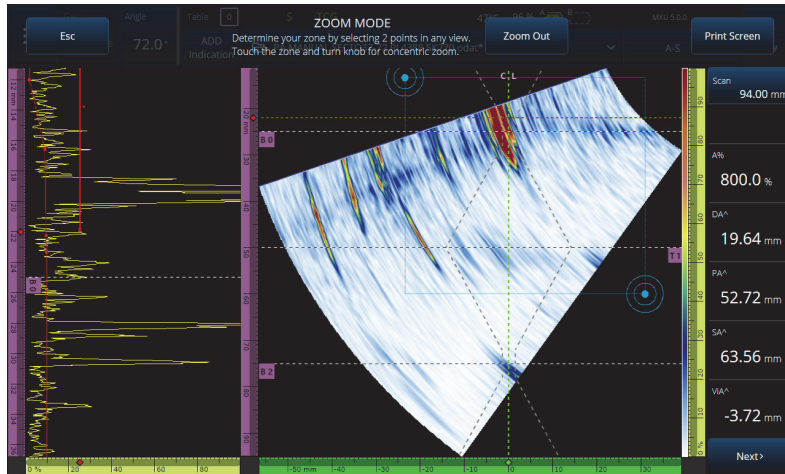

Figure 2-11 Zoom example
1. Press the Zoom key (🔍) to turn on (or off) zoom mode (see Figure 2-11 on page 41).
- ◆ Press the Zoom key (🔍) to turn on zoom mode (see Figure 2-11 on page 41), and then tap **Print Screen** on the display.